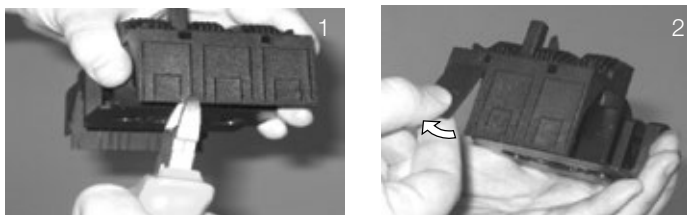

Figure 13
- Break down appropriate elements of the shield for terminals (Figure 13 (1 and 2));